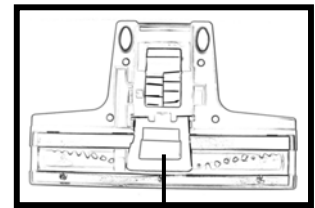

Fig. 11
To clean the deluxe turbo brush (23) of any obstructions, open the flap located on the bottom of the deluxe turbo brush (23) as shown in Fig. 11.